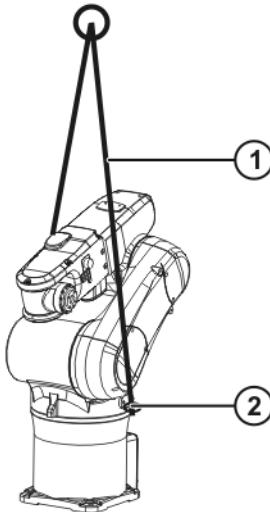

Fig. 13-2: Transporting the robot
16. Attach the lifting tackle (>>> Fig. 13-2).